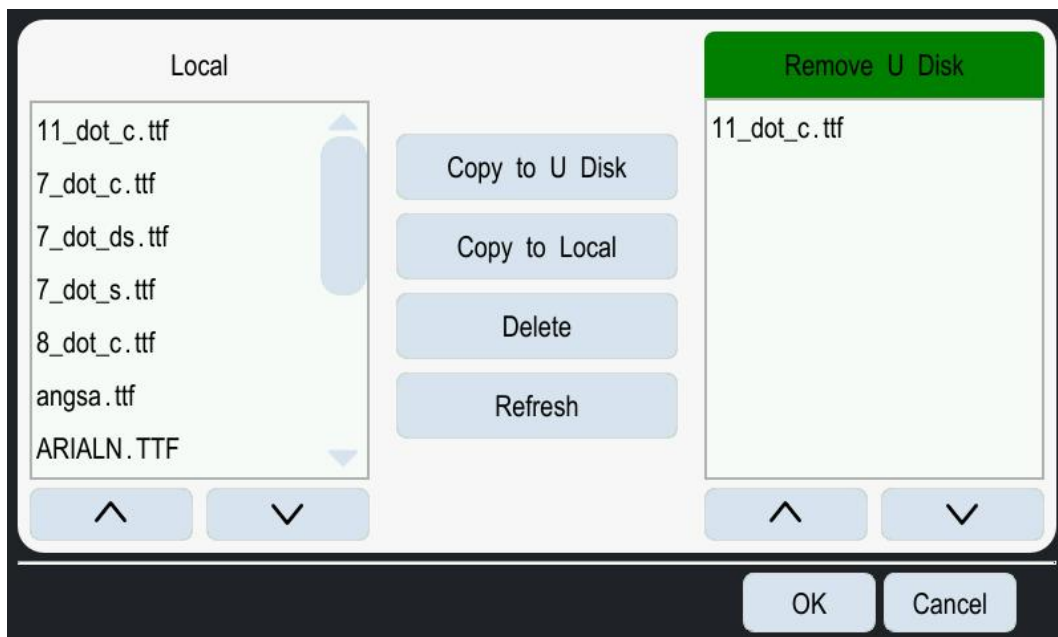

Figure 5-12 File preview interface
1. When you select the U disk to import **File** data, click **Load File** and click the button to enter the preview interface as shown **OK** in Figure 5-12. Select the file to be printed and click the button.